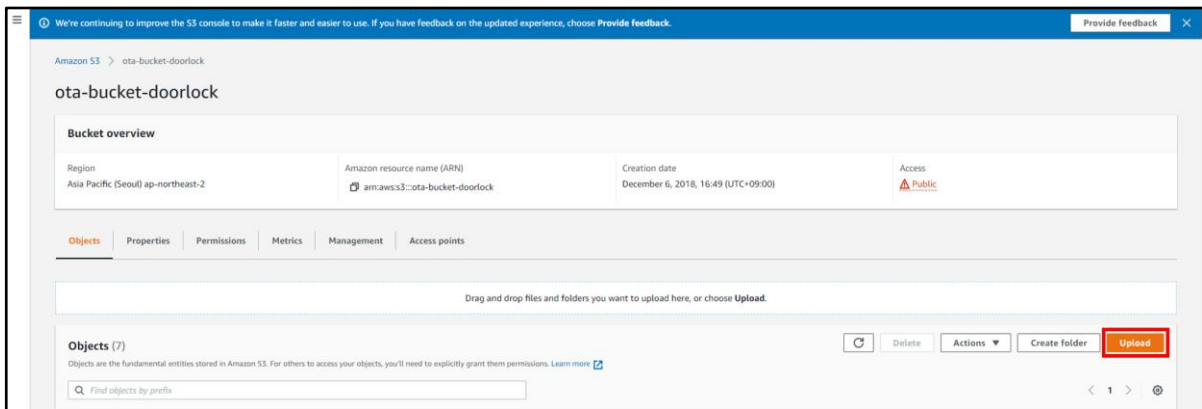

Figure 11: Upload Window
4. Upload the firmware to the created bucket as in Figure 11.